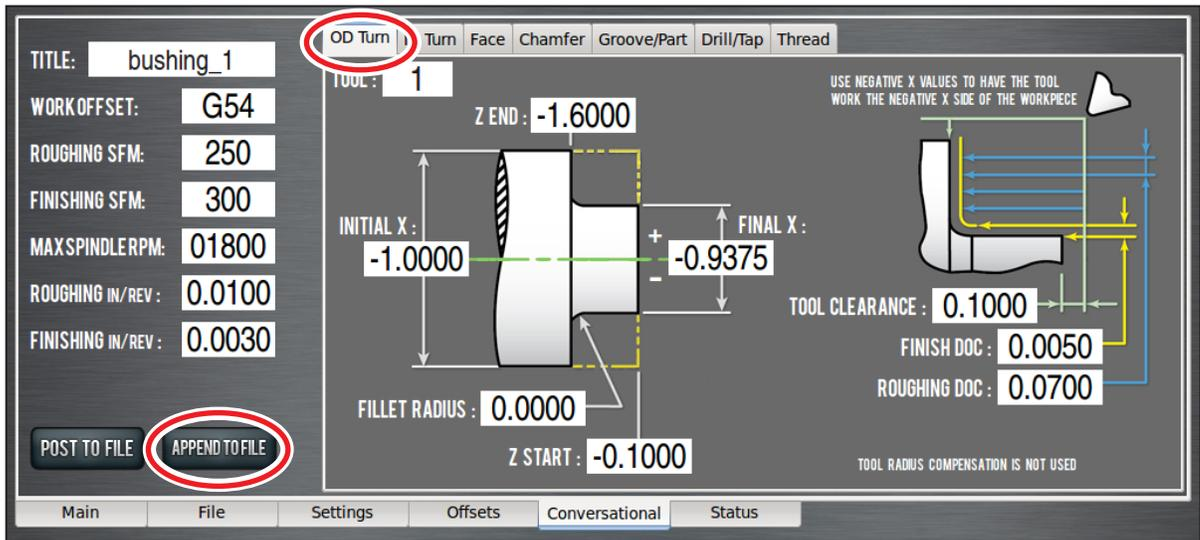

Figure 4.19
1. On the *Conversational* tab, click on the *OD Turn* tab. Enter the values as shown in **Figure 4.19**.
2. After you have entered the values, click *Append to File* (see **Figure 4.19**).